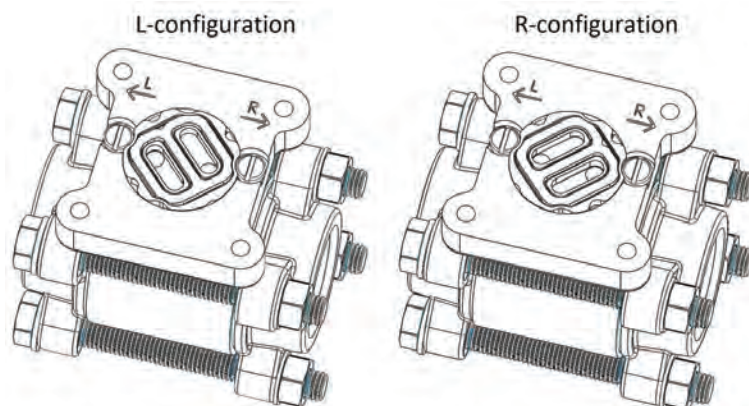

Figure 6
At the time of ordering, you must specify in which direction the Flow Monitor shall be mounted i.e. from which side is the flow entering the Pipe Section and how you would like to read the scale. (Please refer to fig. 6 below for alternatives.) If, for some reason, the Flow Monitor is ordered with the wrong flow direction, it is possible to change this in the field.
To change the direction, loosen the four (4) hexagon screw, which hold the diaphragm housing to the Pipe Section. Remove the diaphragm housing and you will see the flow direction selector (it might have attached itself to the bottom side of the diaphragm housing). Replace the flow direction selector in the configuration for your system (see fig. 6).